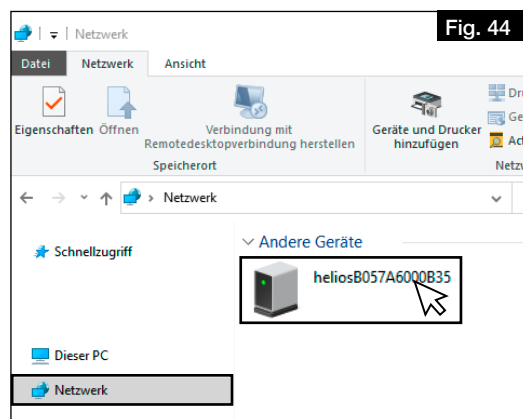

Fig. 44
2. Open desktop and click on Network, cf. Fig. 44.
3. Double-click on the corresponding unit, cf. Fig. 44.